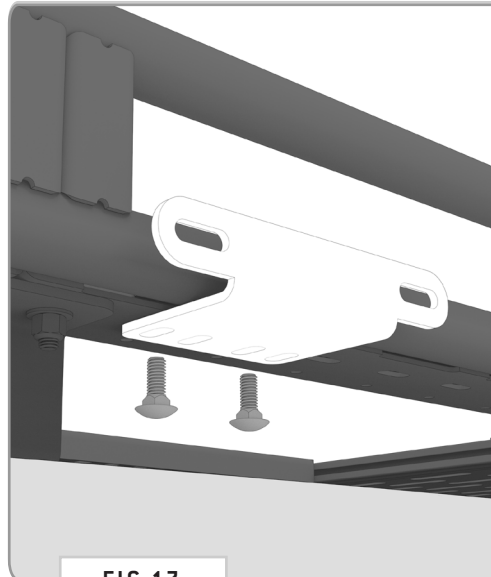

FIG 17
**5.1b Attach Safari Bracket:** Attach the Safari Mounting Bracket to your Safari Rack in your desired location using **3/8-16" Carriage Bolts, Flat Washers and Nylon Locknuts (FIG 17+18)**.